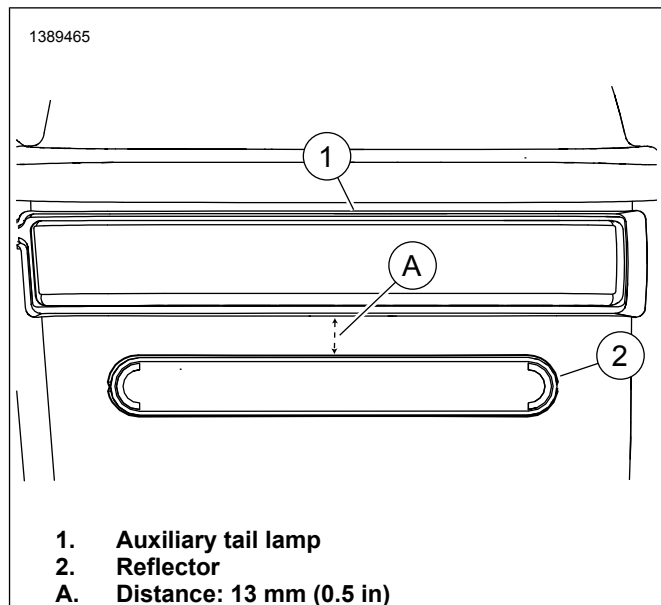

Figure 2. Reflector Placement
- See Figure 2. Mark reflector location.
- See Figure 2. Place reflector (2) on rear of saddlebag centered and Distance: 13 mm (0.5 in) below auxiliary tail lamp (1).